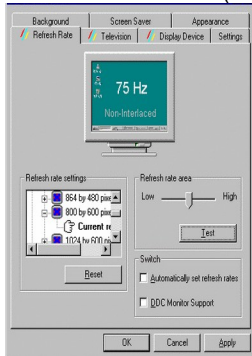

Figure 3-8.
9. **SELECT** the “OK” button to close the “Select Device” window and to select the Color Palette”, Desktop Area”, and Refresh Rate” of your choice under the Trident accelerated driver (refer to Figure 3-8)